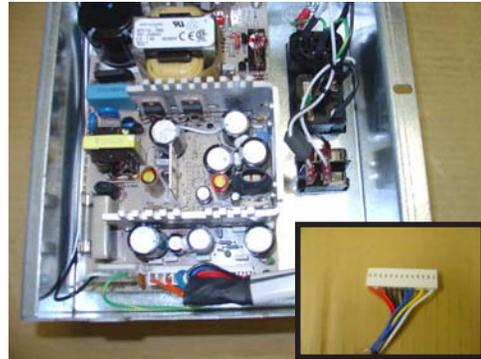

Figure 5. Install new harness and ground.
- Install the new cable harness (P/N 09120-00272) using the above procedure in reverse (a new bushing is supplied). Connect the cable harness and ground wire (Figure 5).
Note: The harness connector must be orientated so that the metal test points (on the connector - see insert, Figure 5) are facing out to the enclosure wall.